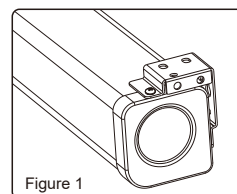

Figure 1
2. There are two ways for wall brackets to fix on the housing. As you can see on the figure 1, which is our normal fixed way (namely factory set). While the other fixed way is to interchange the left and right wall brackets, and then fix onto the housing (namely functional installation way, as figure 2).
Using a tape measure, measure the distance between the two keyholes on the casing (Figure 1). According to the measurement, use the drill to drill identical holes of the appropriate size on the wall (use a smaller drill bit than the actual screws) and ensure that it is level (Figure 2 & 3). Screw in the appropriate screws, either 5 x 40 by itself for wood walls or with anchors for drywalls, leaving enough space at the end to hang the casing (Figure 4). To ensure that the screen is level, use a level to check (Figure 5).
Using a tape measure find out the distance between the two keyholes on the casing ( Figure 1 ). According to the measurement, use the drill to drill identical holes of the appropriate size on the ceiling and ensure that it is level ( Figure 2 & 3 ). Screw in the hook screws ( not provided ), and lift the screen into the hook screws to hang ( Figure 4 ). To ensure that the screen is level, use a level to check ( Figure 5 ).
Using a tape measure, measure the distance between the two keyholes on the casing ( Figure 1 ). According to the measurement, use the drill to drill identical holes of the appropriate size on the wall (use a smaller drill bit than the actual screws ) and ensure that it is level ( Figure 2 & 3 ). Screw in the appropriate screws, either 5 x 40 by it self for wood walls or with anchors for drywalls , leaving enough space at the end to hang the casing ( Figure 4 ). To ensure that the screen is level, use a level to check ( Figure 5 ).